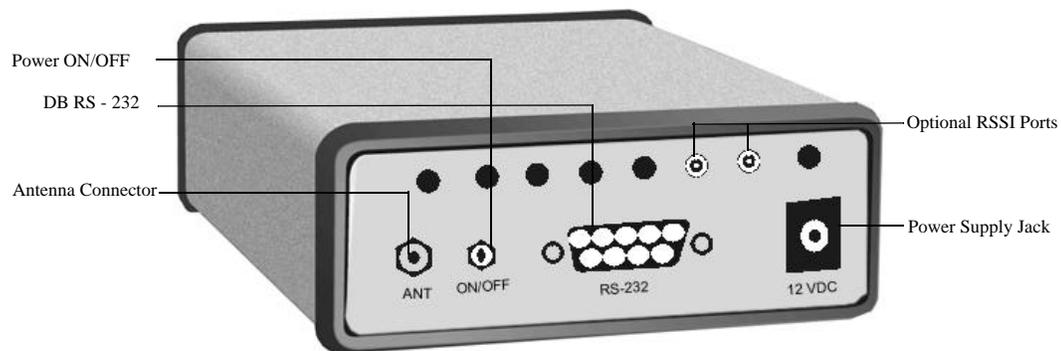

Figure 2-1. GINA Transceiver Rear Panel
1. Set the power switch on the back of the GINA transceiver to OFF (see figure 2-1).